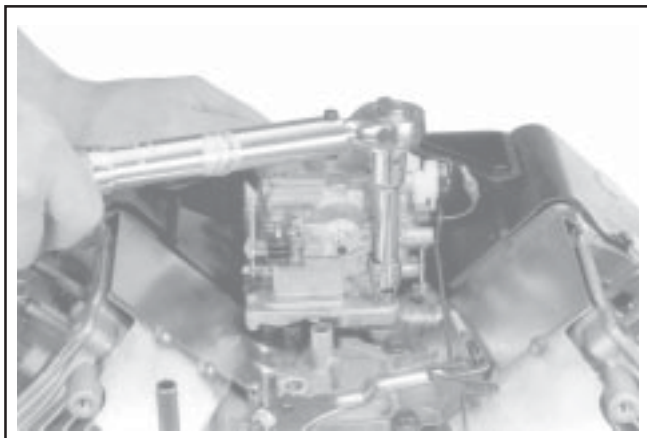
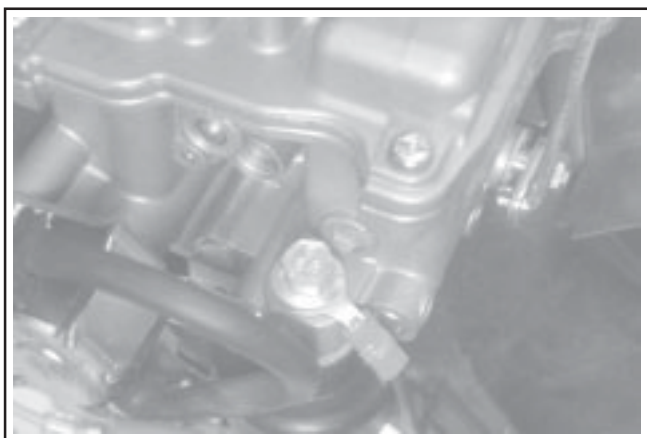

Figure 11-76. Installing Carburetor Assembly.
Figure 11-77. Ground Lead on Carburetor Mounting Screw (One-Barrel Carburetor).
2. Install the carburetor, throttle linkage and governor lever as an assembly. See Figure 11-76. If a plastic intake manifold is used and the carburetor is equipped with a fuel solenoid, attach the ground lead to the carburetor mounting screw. See Figure 11-77.